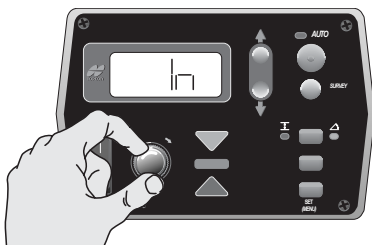

Figure 17. View Menu Options
- Turn the Grade Adjustment Knob to view the options available for the Menu selection (Figure 17).